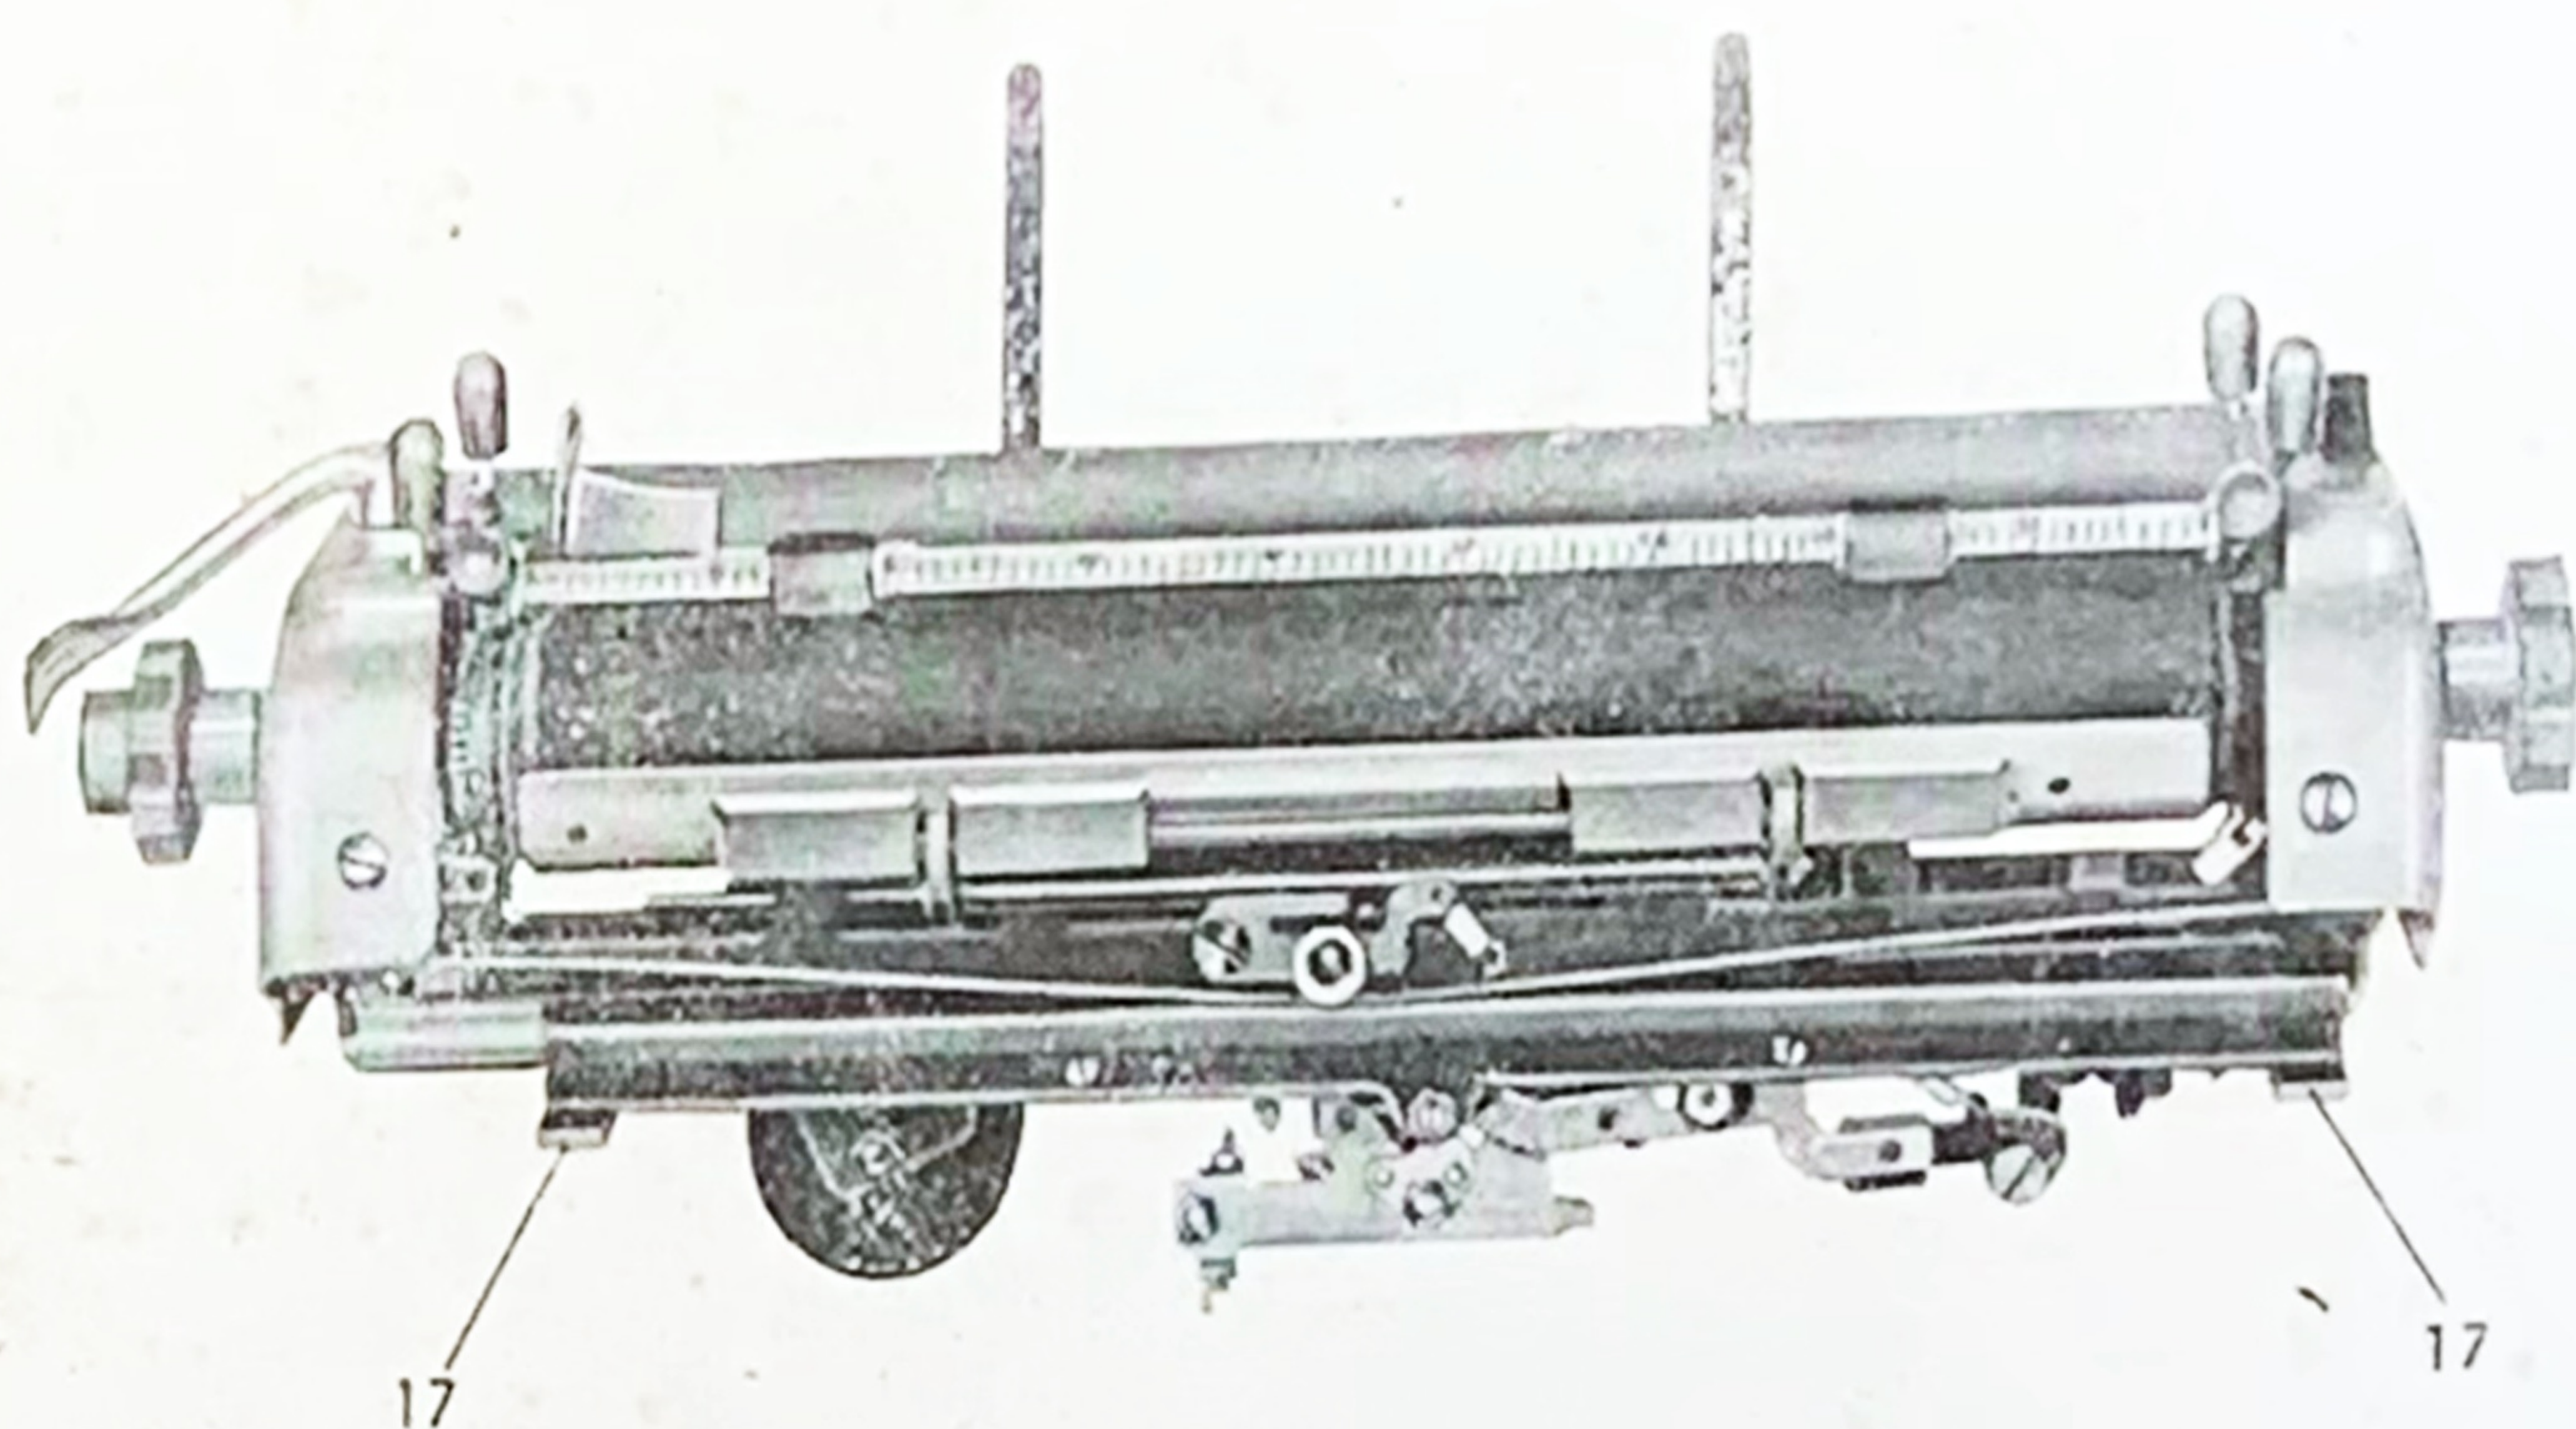
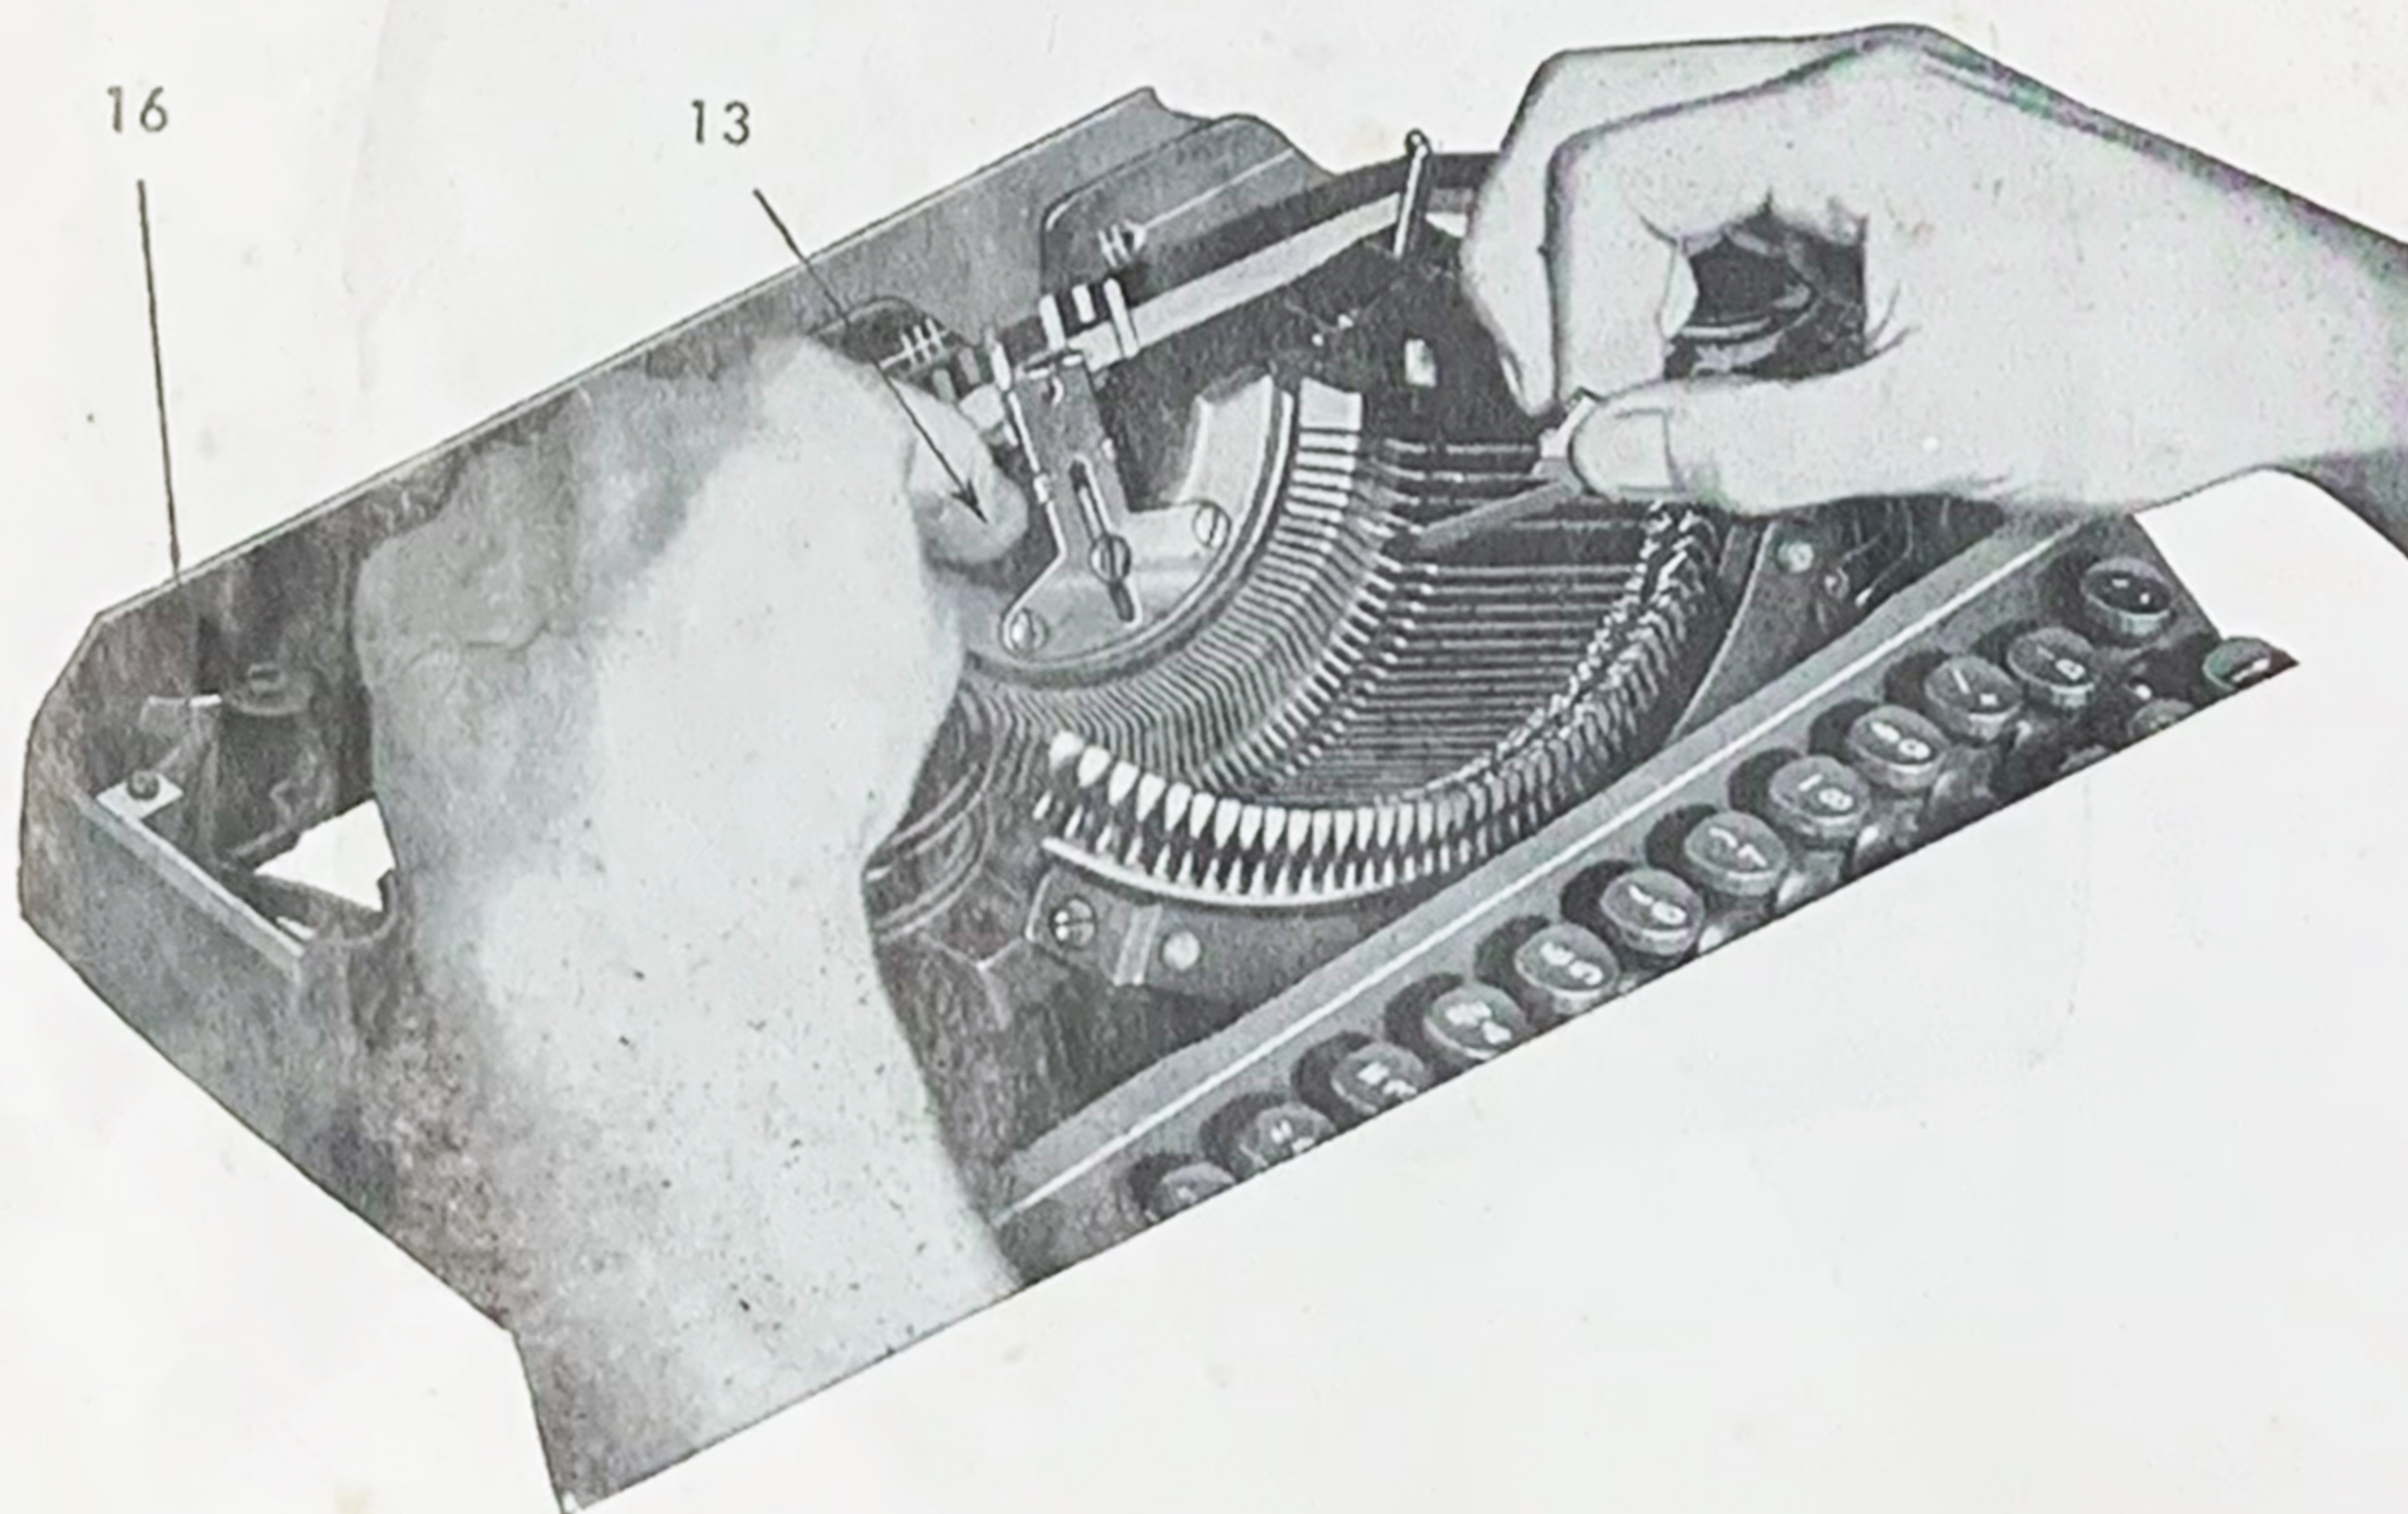

fig. 7
fig. 8
The entire carriage can be easily removed after turning back both the carriage locks 16 (fig. 8) under the rear side of the typewriter casing (fig. 7).
While pressing down carriage release key 10, push the carriage to the left and right, thereby releasing the carriage locks 16. When replacing the carriage proceed in the opposite manner. Care has to be taken that the holding rails 17 (fig. 7) are brought forward below the holding screws and watch that the guide pins will engage the provided bore holes. One after another, the two carriage locking hooks 16 are then snapped over their fittings. Although removal and replacement of the carriage involves no difficulties, removal of same is not advisable unless there is a reason to do so.
In order to remove the type bars from the segment e. g., for cleaning their bearing surfaces, the carriage has to be lifted out of the machine according to the directions given above. One finger of the left hand then depresses type bar release lever 13 (fig. 8), while the right hand seizes the type bar to be removed.